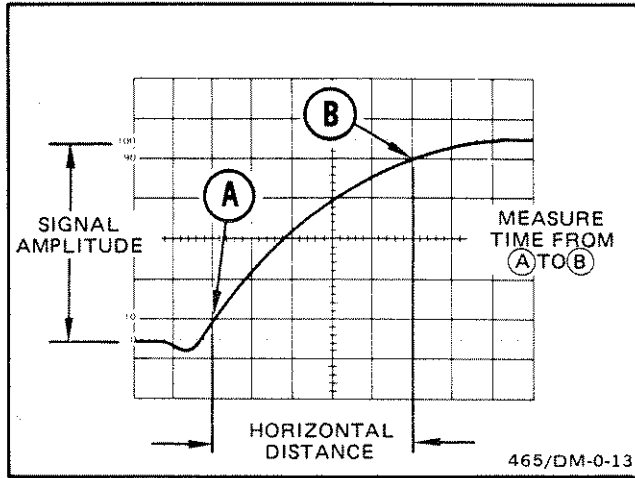

Figure 16. Rise time.
Rise-time measurements use the same methods as time duration, except that the measurements are made between the 10% and 90% points on the leading edge of the waveform (see Figure 16). Fall time is measured between the 90% and 10% points on the trailing edge of the waveform.
4. Adjust vertical positioning so that the zero reference of the waveform touches the 0% graticule line and the top of the waveform touches the 100% graticule line (see Figure 16).
6. Horizontally position the display so the 10% point on the waveform intersects the second vertical graticule line (see Figure 16, Point A).
EXAMPLE: The horizontal distance between the 10% and 90% points is 5 divisions (see Figure 16), and the A SEC/DIV switch is set to 1 μ s. The X10 magnifier knob is pushed in (1X magnification).